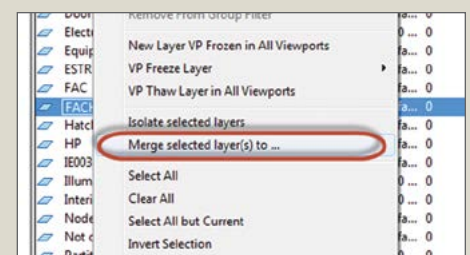

Figure 2. Layer Merge can now be found in the Layer Properties Manager.
The truly neat feature of modeling in CAD back then was that I could experiment with the positioning of the passages and screw holes without spending a fortune on machining. I found I could illustrate how the sample passages worked by subtracting the finished block from a solid block — only the holes were left! It became easy to see which elements were running into each other (**figures 2 and 3**).
Figure 2. This image — the negative, as it were, of two blocks stuck together — shows the holes of one mating with the similar holes of the other. Screws hold them together.
5. Merged Layer Merge. Layer Merge was a popular Express Tool that grew up to become a full-fledged AutoCAD command a few releases ago. Now you'll find that Layer Merge is fully incorporated into the Layer Properties Manager (**figure 2**). If you aren't familiar with LayMrg, it's used to merge one or more layers onto a destination layer. The layers that were merged are then deleted. It's an awesome time-saving tool!